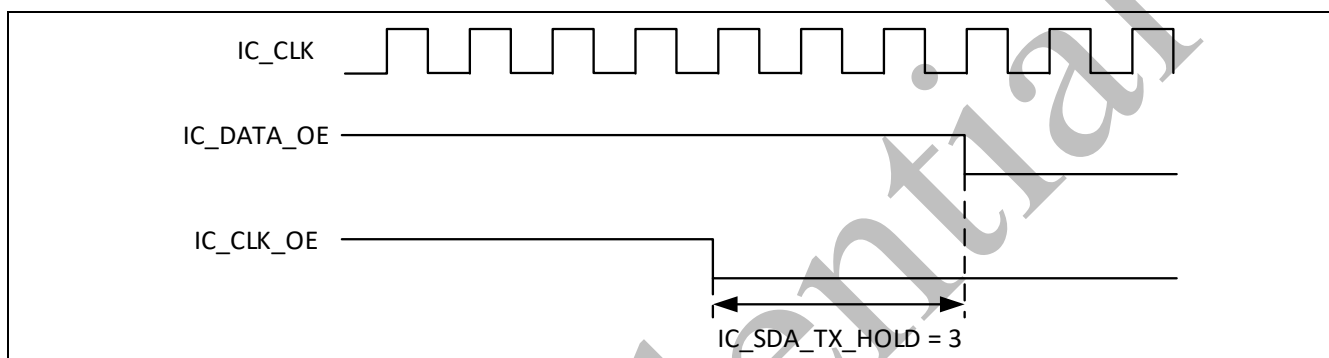

Figure 3-79 I2C Master Implementing tHD:I2C_DATA with SDA_HTLR = 3
- Figure 3-79 shows the tHD:I2C_DATA timing generated by the I2C operating in Master Mode when SDA_TX_HTLR = 3.